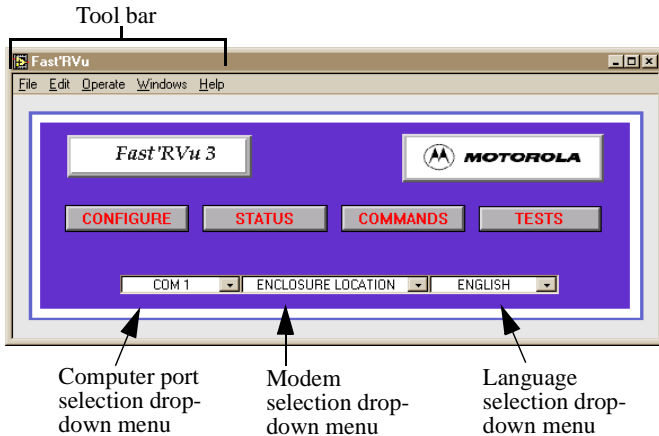

Figure 4-1. Fast'RVu Main Window
When you run Fast'RVu, its main window opens (Figure 4-1).
2.	Run Fast'RVu. The Fast'RVu main window displays (Figure 4-1). Optionally, select Show Help from the Help Menu or press CTL and H to display an information and instruction window.